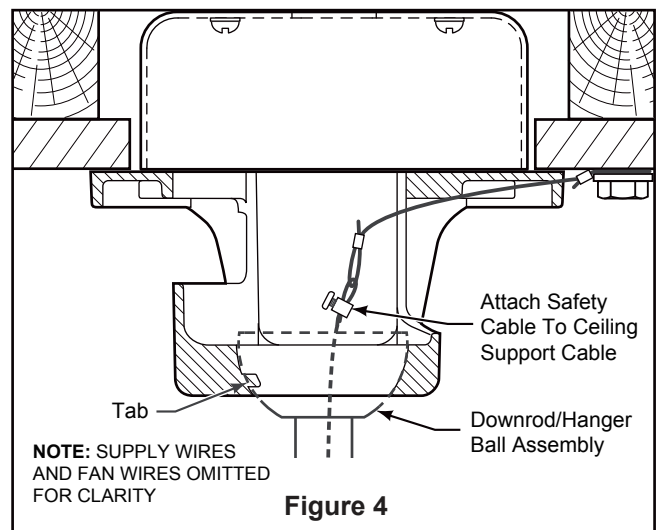

Figure 4
- 4. Slide downrod into the downrod support on top of the motor. Install the clevis pin by aligning the holes in the downrod support with holes in the downrod. Secure clevis pin with hairpin clip. Install the two set screws with nuts in the downrod support. Securely tighten the set screws with screwdriver then fully tighten the nuts using the hex wrench. (Figure 4)
4. Carefully lift the fan and seat the downrod/hanger ball assembly onto the hanger bracket that was just attached to the outlet box. Be sure the groove in the ball is lined up with tab on the hanger bracket. (Figure 4)
5. Attach the safety cable to ceiling support cable. Slide cable clamp and washer onto safety cable (from fan). Place the end of cable through the loop of ceiling support cable. Pull as much cable through loop as possible. Feed end of cable into clamp hole and firmly tighten screw. (Figure 4)
3. Connect wires using connectors as shown in Figure 4.
4. If installing the light kit, skip this step. Assemble the light kit wire cover to the light kit using the previously removed screws and secure all three screws. (Figure 4)
- 4.** To make fan operational, install two 3V batteries (included) in hand-held remote transmitter, with fan power off. Then, follow the remote code setting process. If not used for long periods of time, remove battery to prevent damage to transmitter. Store the remote away from excessive heat or humidity. (Figure 4)